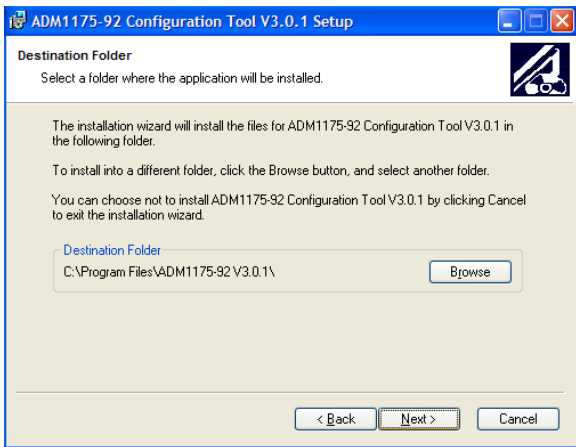

Figure 5. Evaluation Software—Choosing a Destination Folder
4. Click **Next** to display the **Destination Folder** window (see Figure 5).